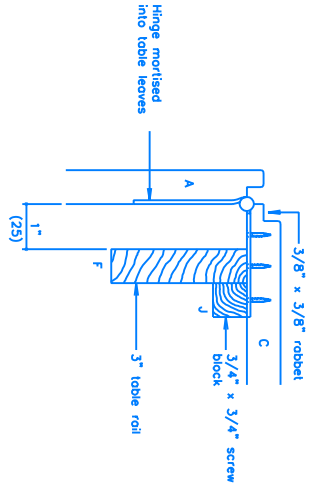

FIGURE 6
- Pre-drill four equally spaced holes (2" spacing) in pieces K with a 1/8" drill bit and countersink these holes from the rounded side. Place pieces C and D upside down, glue the rabbet joint, ensure they are square and tight against each other. Use a pair of bar clamps to accomplish this, and screw on pieces K with twenty #8 1 1/4" screws as shown (Fig 5). Position A and B tight to this assembly and trace out where the hinges will attach. Drill four 3/8" dia. holes to attach wood buttons. Mortise out the hinge locations so that they will be flush, and attach with 5/8" screws ensuring the screws do not go through the other edge of the table top. The hinge should now operate as shown (Fig 6). Glue in the four wood buttons.